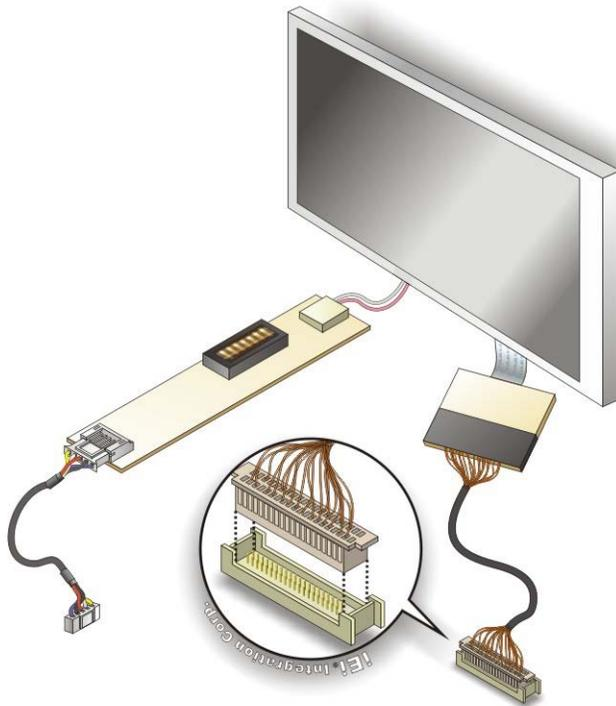

Figure 4-18: LVDS Connector
Step 2: **Insert the cable connector.** Insert the connector from the LVDS PCB driving board to the LVDS connector as shown in **Figure 4-18**. When connecting the connectors, make sure the pins are properly aligned.